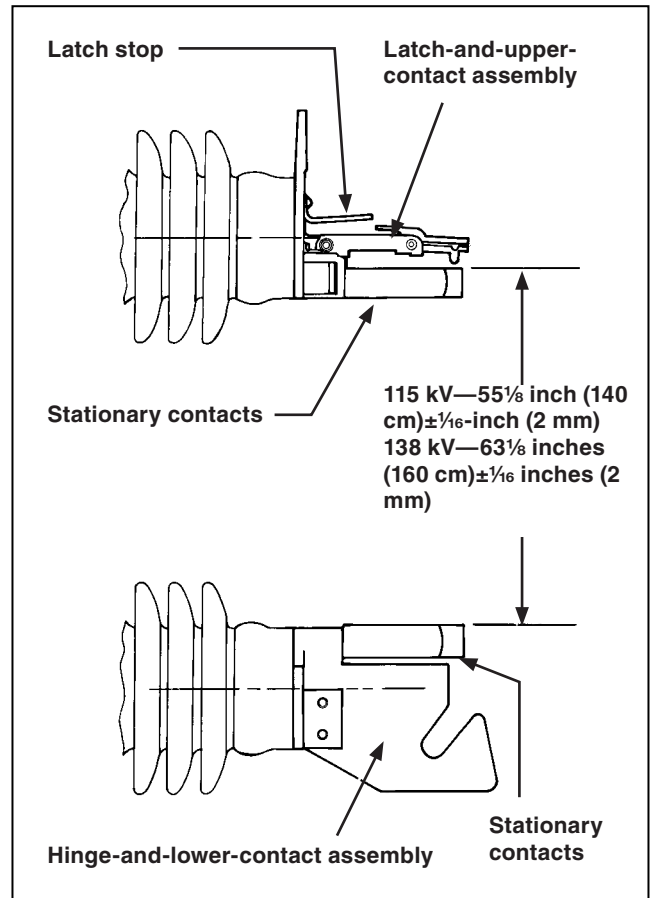

Figure 6. Checking distance between stationary contact edges.
- STEP 3.** Remove the fuse unit from the mounting. Carefully measure the edge-to-edge distance between the stationary contacts of the hinge-and-lower-contact assembly and the stationary contacts of the latch-and-upper-contact assembly. See Figure 6.
If necessary, loosen the bolts that secure the latch-and-upper-contact assembly to its insulator stack (or bracket weldment) and move the latch-and-upper-contact assembly as required to attain the dimension shown in Figure 6. Be sure to make the measurement on both sides to ensure the wing contacts will still squarely engage the stationary contacts as described in Steps 1 and 2 on page 10. Then, securely tighten the bolts loosened previously in this step. Recheck the dimension shown in Figure 6 to be sure that the adjustment was not lost in tightening the bolts.
SMD Power Fuses manufactured prior to June 1963 cannot be slammed closed. Such fuses lack the latch stop illustrated in Figure 6 on page 11, and must be closed with a deliberately positive motion and solid follow-through. If the fuse-unit assembly is slammed closed, the latch may fail to operate and the fuse-unit assembly may recoil out of the latch-and-upper-contact assembly.